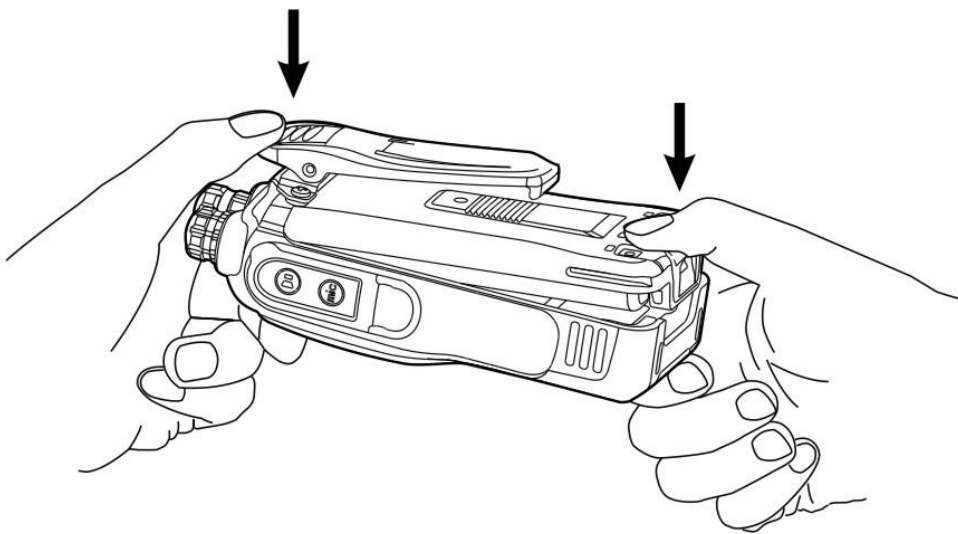

Figure 2
2. Lightly press the bottom of the battery until a click is heard. By then, the battery latch locks with the main unit and assembly is finished. (See figure 2 below)